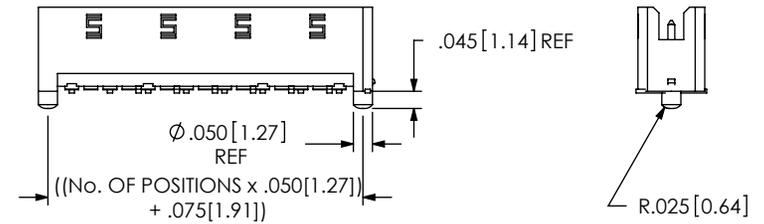

FIGURE 4
- WT: WELD TABS (USE WT-25-07-T) (SEE FIG. 4 SHEET 2) (AVAILABLE ON -05 THRU -30 POS ONLY) (NOT AVAILABLE WITH -A OR -LC OPTIONS)